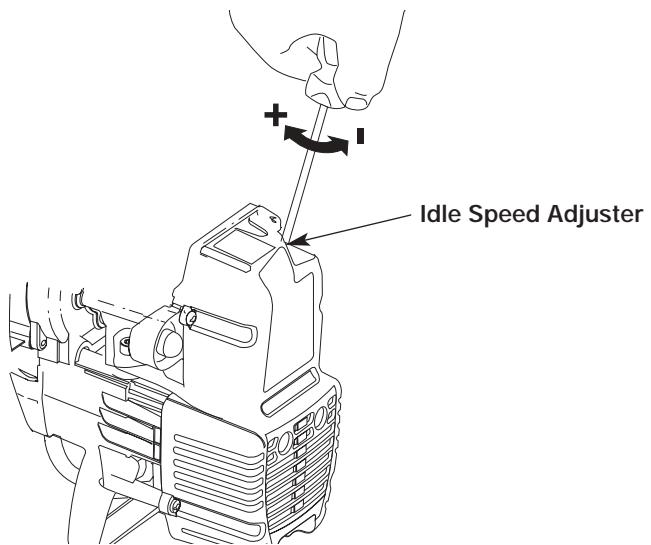

Fig. 18
The engine's idle speed adjuster is adjustable through the air filter/muffler cover (Fig. 18).
2. Release the throttle control and let the engine idle. If the engine stops, insert a small phillips or flat blade screwdriver into the hole in the muffler cover (Fig. 18). Turn the idle speed screw **clockwise** 1/8 of a turn at a time (as needed) until the engine idles smoothly.